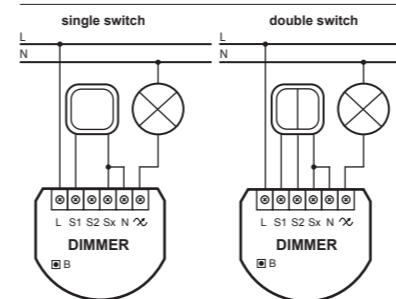
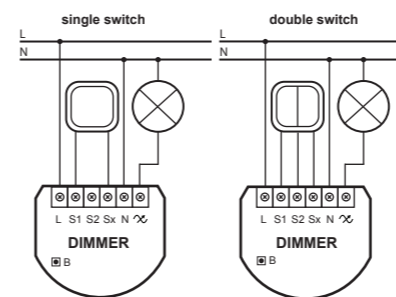
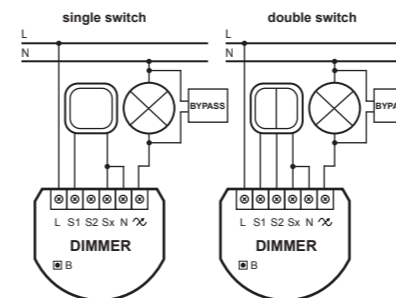

Fig.1 Wiring diagram - 2-wire connection
Fig.2 Wiring diagram - 3-wire connection
Fig.3 Wiring diagram for connecting the Bypass FGB-002
2. Connect the Dimmer according to Fig. 1, Fig. 2, or Fig. 3.
Connect the device in accordance with the wiring diagram presented in Fig. 1, Fig. 2 or Fig. 3. Switch on the mains voltage. LED indicator will signal Z-Wave network inclusion state with a colour: